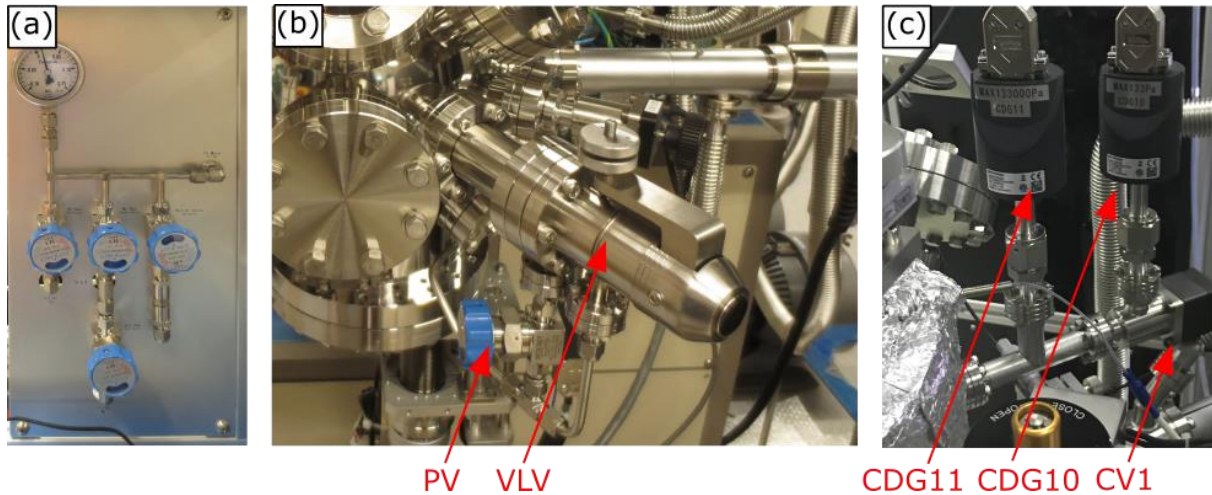

Figure 10: Process gas feeder (a) gas panel, (b) inlet valves and (c) capacitance gauge.
The process gas panel is a subpart of the PLD chamber (see Figure 10). It can supply oxygen, argon, and nitrogen gases to the main chamber and the load-lock chamber after connection of primary side. All gases can be introduced to the PLD chamber with flow control through variable-leak valve (VLV) or process valve (PV).